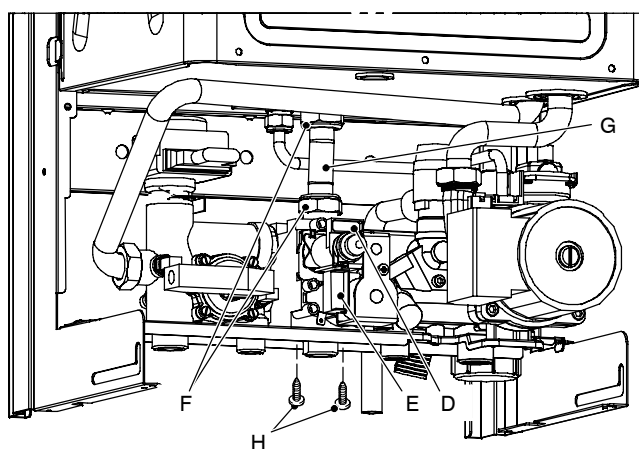

Fig. 57
- 2 Disconnect the connectors *D* (Fig. 57) from the modulating operator and measure the electrical resistance of the coil. Its electrical resistance value must be approx.  $114 \Omega^*$ .
- 2 Disconnect the electrical connector *E* (Fig. 57).
- 2 Disconnect the connectors *D* and *E* (Fig. 57).